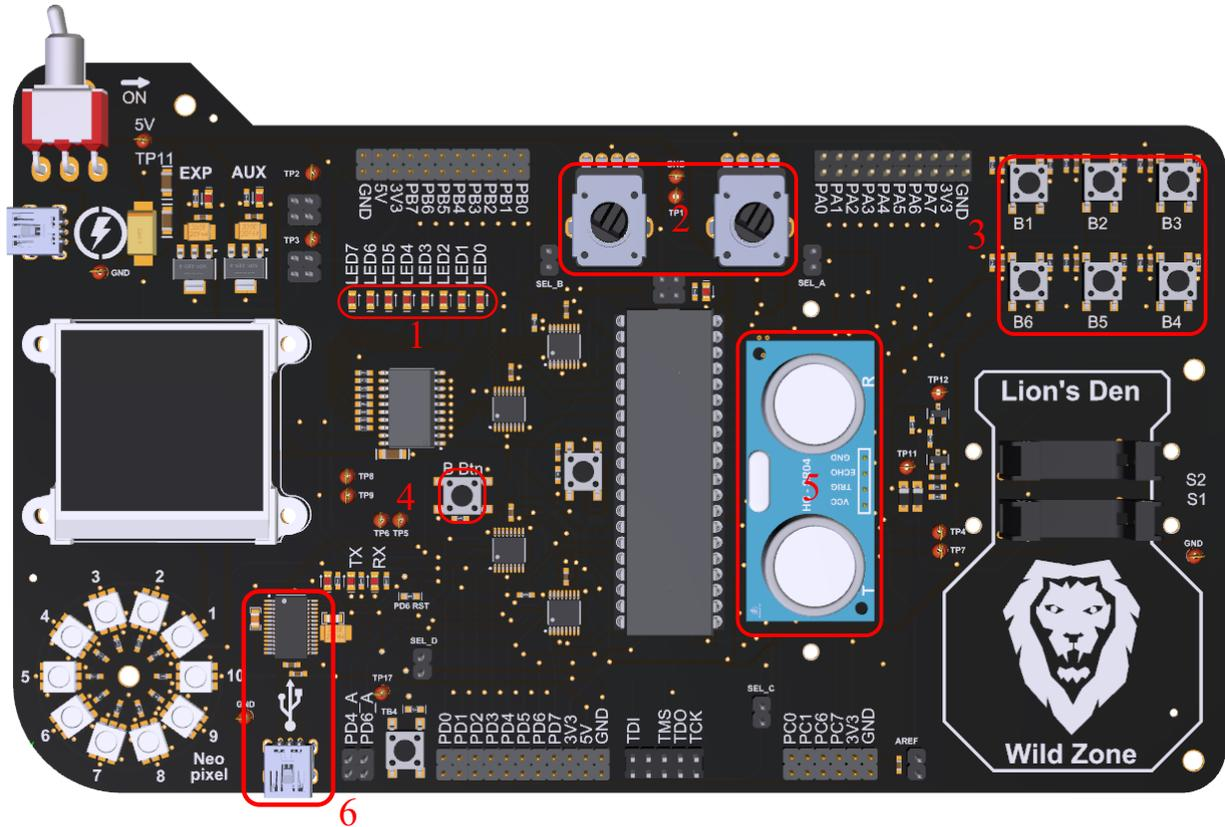
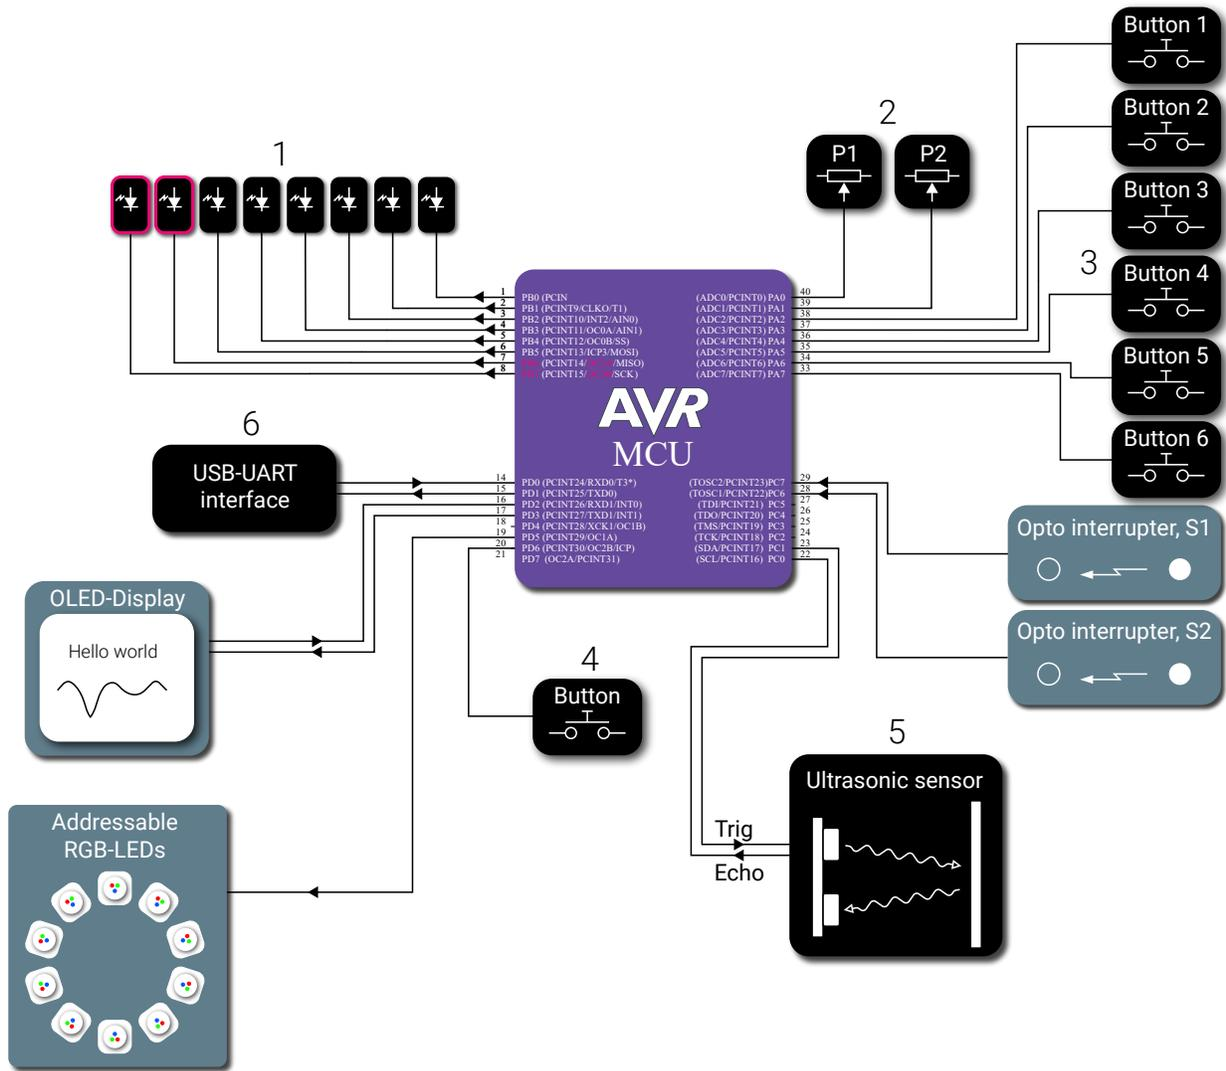

Figure 1: A picture of the circuit board with the used I/O devices marked.
Figure 2: Block schematic of the circuit board with the used I/O blocks coloured black.
The hardware used in the course includes several I/O devices. The external devices are shown in Figure 1 and 2. In Figure 1 the I/O devices are encapsulated in a red rectangle and labelled with a number In Figure 2 the corresponding blocks are coloured black.
Some of the I/O units need to be interfaced in a way that requires more finesse than what a simple, general-purpose I/O pin can achieve. For instance, the outputs of the potentiometers are analog signals. An I/O pin, when configured as an input, can only tell if a signal is above or below a certain threshold. For this reason, it lacks the ability to measure the actual amplitude of an analog signal. In case of the AVR microcontroller (and microcontrollers in general), each I/O pin can be connected (inside the microcontroller) to a couple of different sources. The name of the alternative sources can be seen in Figure 2. It is the text between the parentheses. When it comes to Port A, all of the I/O pins can be connected to the built-in analog-to-digital converter. See the name of the alternative source in Figure 2, ADC0, ADC1 and ADC2 and so on.
Use the schematic in Figure 2 to see where the the button is connected.
- Now we will spice things up a bit. Change the currently used button to the spare button connected to PD7 (Port D). It is labeled with `B_Btn` and can be found on the left hand side of the MCU, see Figure 1. This button is of the same kind as button B1-B6. And remember to configure PD7 as an input only. There are other components connected to port D.